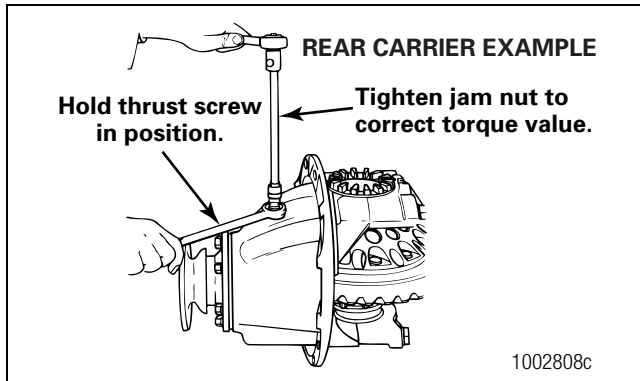

Figure 5.79
5. Tighten the jam nut, if equipped, to the correct torque value against the carrier. Refer to Section 8. Figure 5.79.